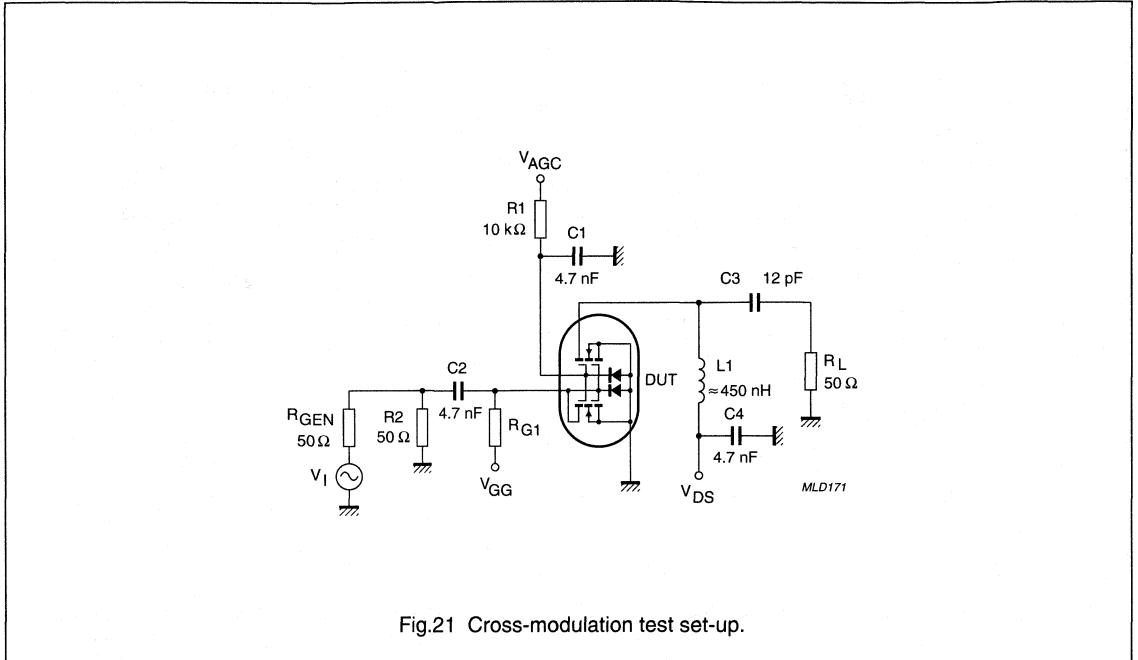

Fig.21 Cross-modulation test set-up.
1. R_{G1} connects gate 1 to $V_{GG} = 5\text{ V}$; see Fig.21.